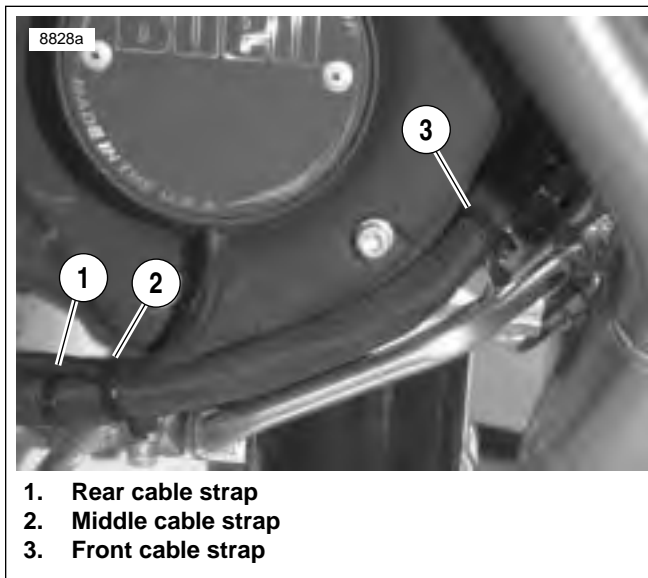

Figure 7-89. Cable Straps
31. See Figure 7-89. Install cable straps:
- a. Front cable strap (3) secures voltage regulator and oil pressure switch wiring.
- b. Middle cable strap (2) secures voltage regulator, oil pressure switch and cam position sensor wiring.
- c. Rear cable strap (1) secures conduit to voltage regulator wiring.